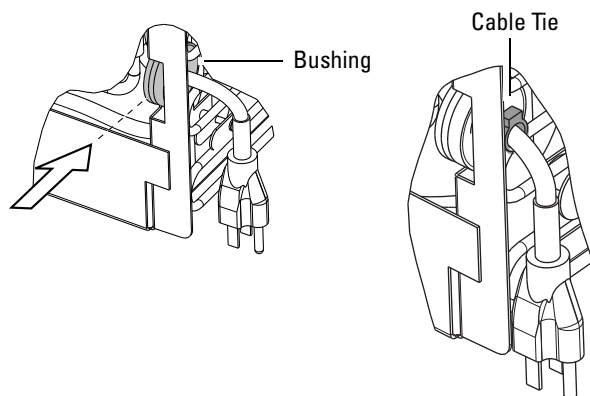

Figure 14: Secure AC Power Cord (Full length of line cord not depicted)
13. Hold the line cord taut to remove any slack, and attach a cable tie 489-0110-00 (Figure 14).